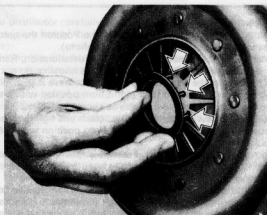

Fig. 13.90 Plastic thrust ring being fitted to clutch diaphragm spring – arrows show hooks (Sec 10)
- 14 When fitting a thrust ring, refer to Figs. 13.90 and 13.91 and fit the ring from the outside of the spring as shown, making sure that its retaining ring is correctly seated beneath the hooks.